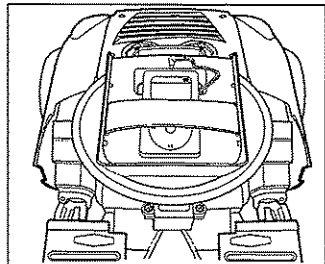

Fig 7 ③
5. Place your portable audio player on the audio player platform and attach firmly. (see Fig 7)